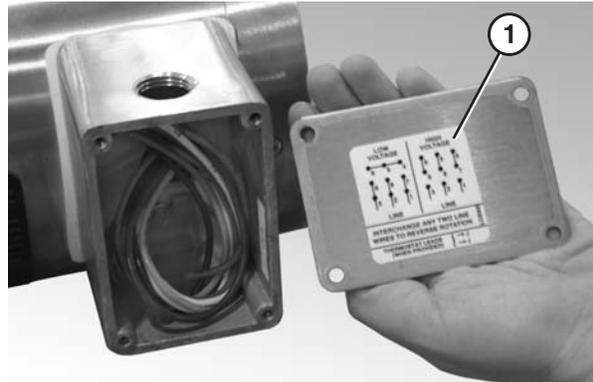

Figure 40
2. Refer to the wiring diagram (Figure 40, item 1) on the inside of the junction box cover.